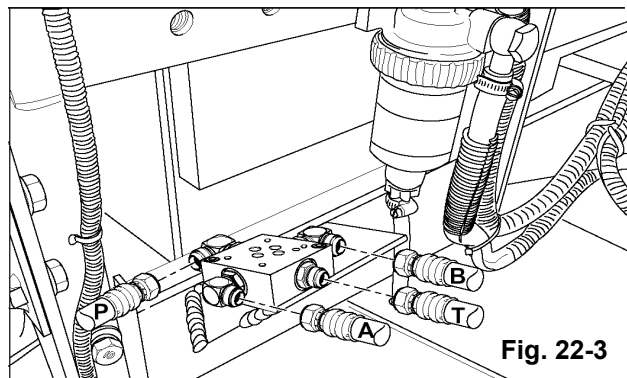

Fig. 22-3
5. Connect the Hoses to the Mounting Subplate. You will connect the two hoses that run from the coupler cylinder into Mounting Subplate ports A & B. You need to run a hose from Mounting Subplate port P to the Pilot Pressure Pump. You will route a hose from Mounting Subplate port T to the Hydraulic Reservoir Tank (**see Fig. 22-3**).